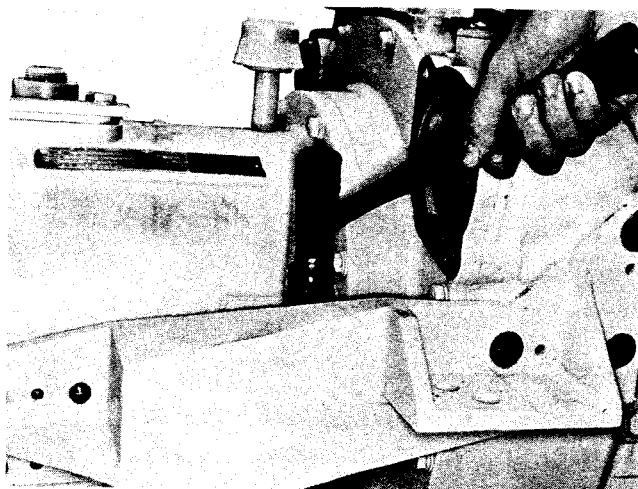

Fig. 5-1, (V21999). Removing marine gear mounting brackets
1. Remove capscrews and lockwashers securing engine mounting brackets to marine gear and flywheel housing; drive mounting brackets from dowels with a soft hammer, Fig. 5-1.